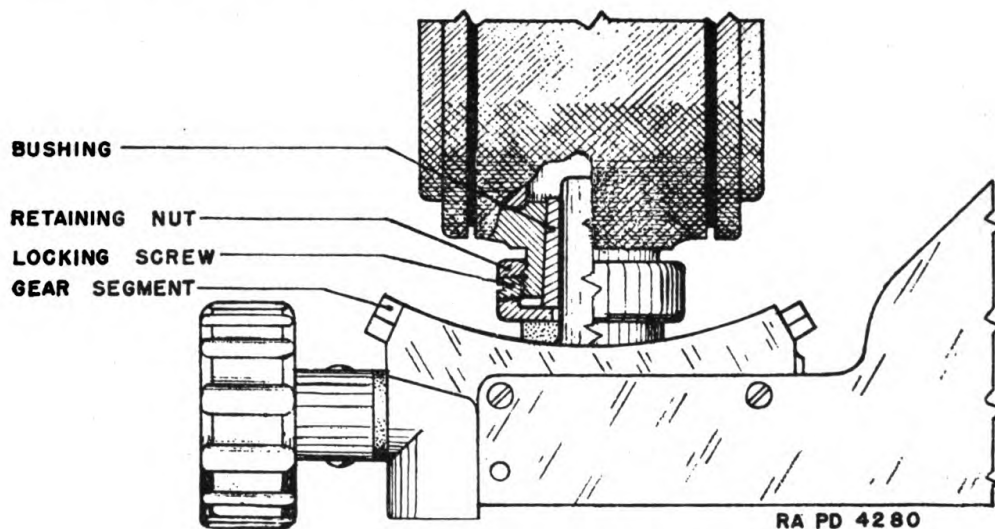
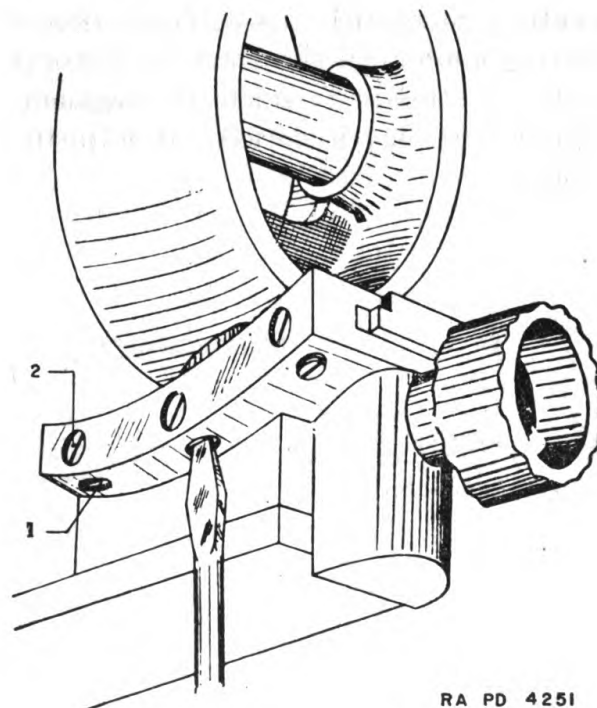
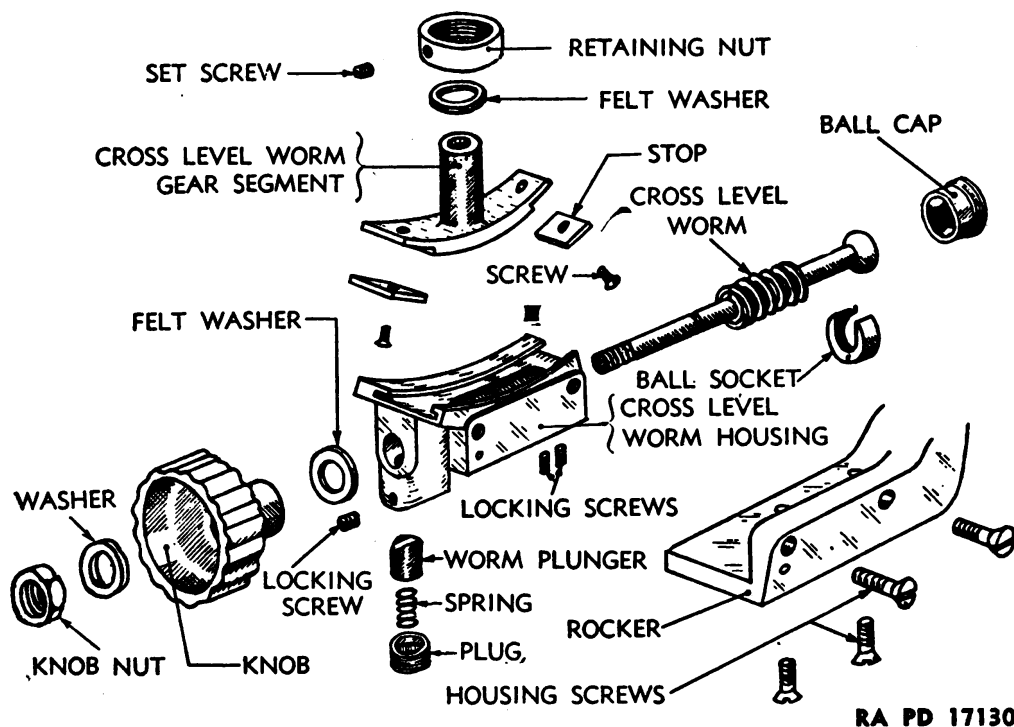

FIGURE 14.—Cross level gear segment and associated bushing adjustment.
FIGURE 15.—Adjustment of gib screws.
FIGURE 22.—Exploded view of cross-leveling mechanism.
b. Gib adjustment.—Loosen the retaining nut (fig. 14) by first loosening the locking screw. Loosen the locking screw (1, fig. 15) and adjust the screws (2) so that the segment can be moved in the cross
g. To disassemble cross-leveling mechanism.—Reference should be made to figure 22 in regard to disassembling procedure for this mechanism.
(2) Remove the plug (fig. 22) by first loosening the locking screw. Unscrew the cross-leveling retainer knob and remove the washer and knob. Slide off the felt washer. Unscrew the ball cap after first loosening the headless locking screws. Remove the cross level worm together with the ball socket from the housing.
(3) Slide the worm housing from the cross level segment by first loosening the locking screws (1, fig. 15) and gib adjusting screws
(2, fig. 15). Loosen the retaining nut (fig. 22) by first loosening the locking screw. Extract the cross level segment together with washer from the telescope body. The disassembly may be carried out further if necessary.